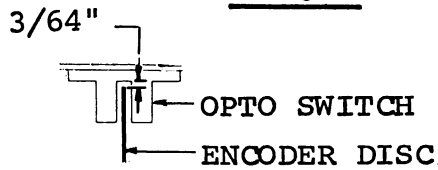
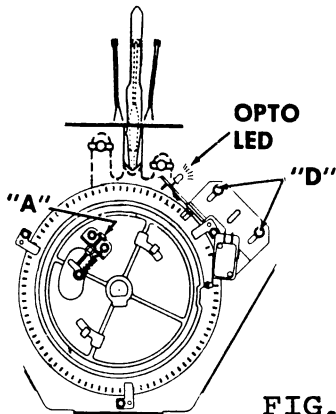

FIG. 2
FIG. 3
2. THE OPTO SWITCH ASSEMBLY MUST BE SET APPROXIMATELY 3/64" ABOVE ENCODER DISC AS SHOWN IN FIG. 2. LOOSEN SCREWS "D" (FIG. 3) TO RAISE OR LOWER ASSEMBLY, AND RE-TIGHTEN.
7. IF INNER GRIPPER "V" IS NOT CENTERED: TURN SCREW "A" (FIG. 3) CLOCKWISE IF MAGAZINE STOPS TOO SOON, AND COUNTER-CLOCKWISE IF IT STOPS TOO LATE.